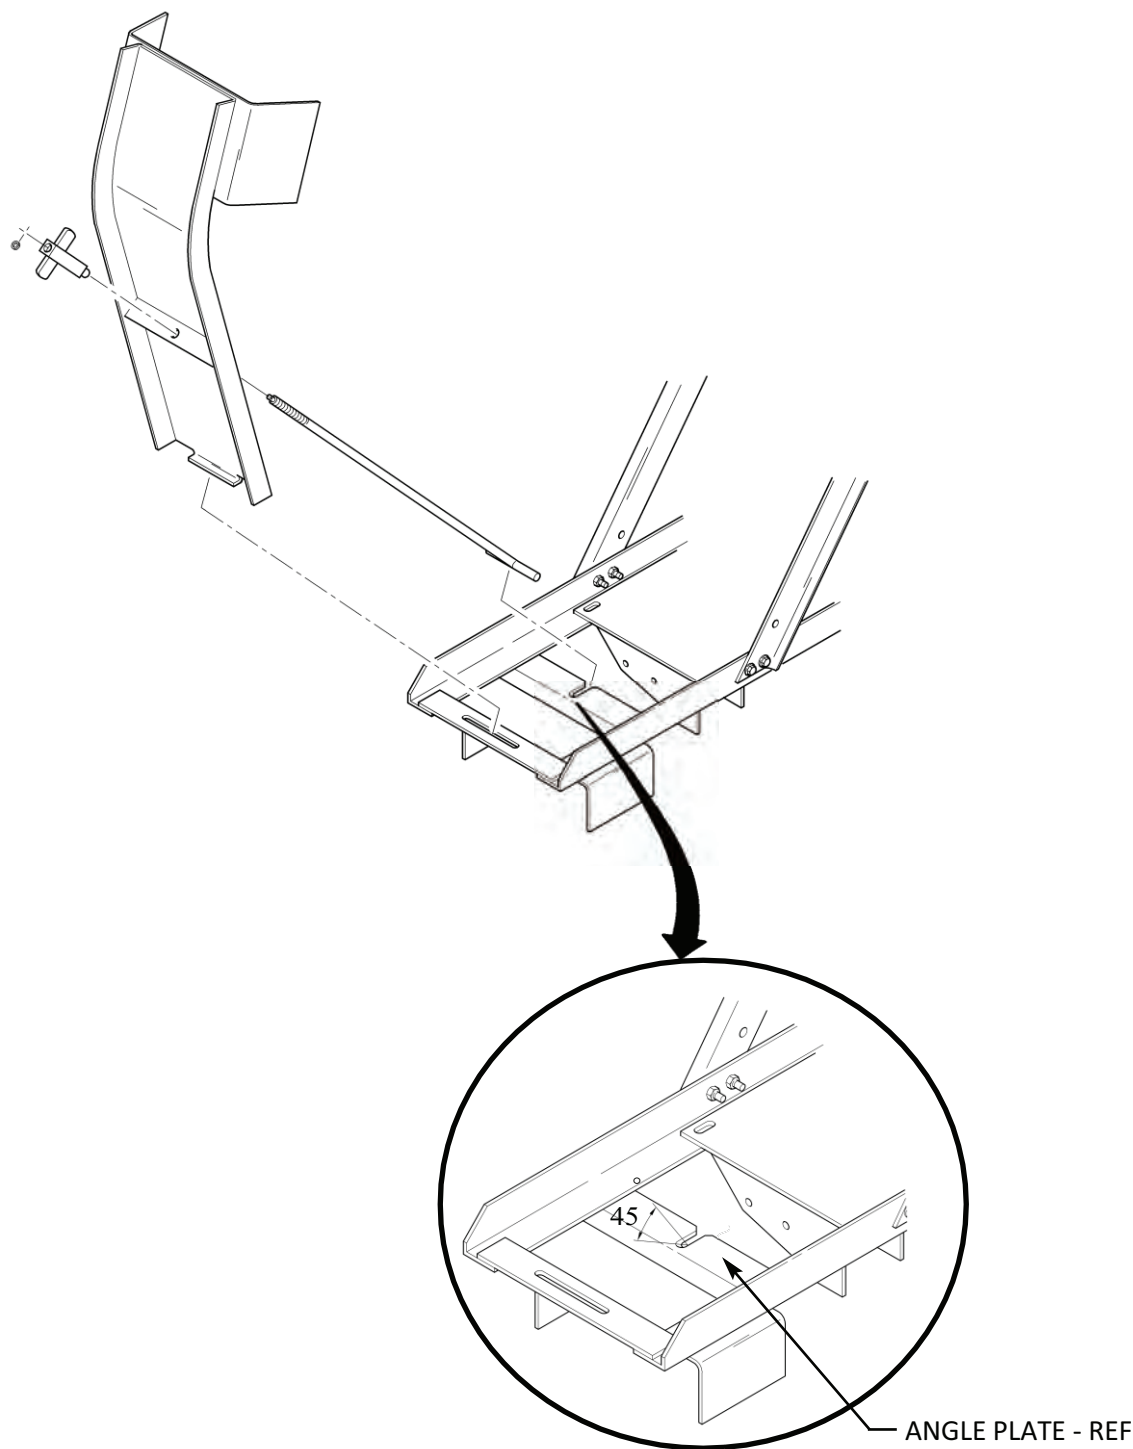

FIGURE 2
- (4) Chamfer edge of angle plate to 45 degrees as shown in figure 2.